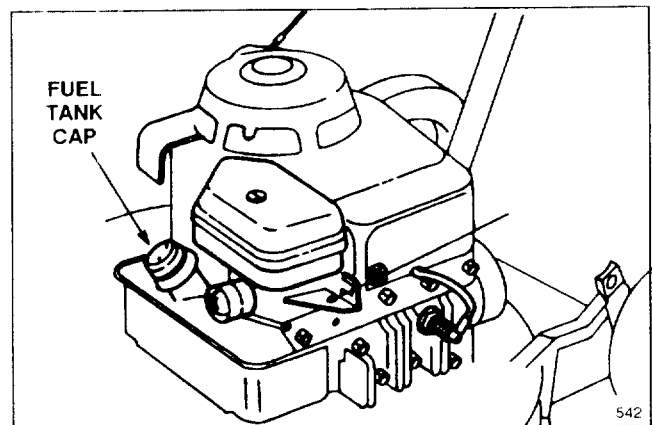

Figure 6
1. Clean around fuel tank cap and remove cap from tank (Fig. 6). Do not fill tank full. Using unleaded gasoline, fill fuel tank to within 1/4" to 1/2" (6 to 13 mm) from top of tank, not into the filler neck. This space is for expansion of fuel